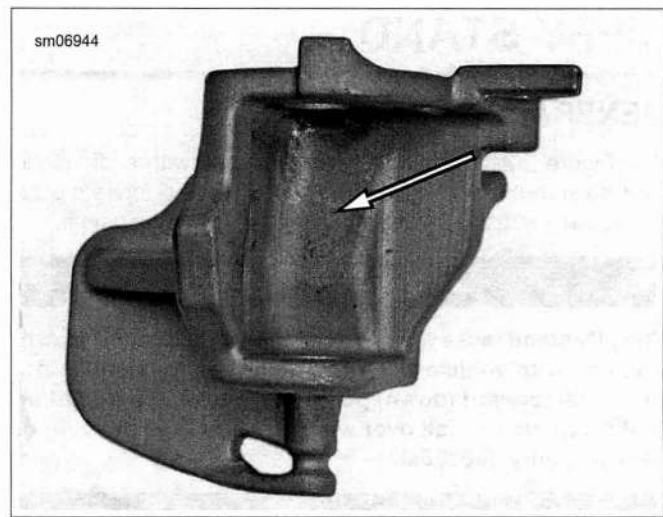

Figure 2-214. Jiffy Stand Yoke Ramp
- See Figure 2-214. Coat the ramp of the jiffy stand yoke with ANTI-SEIZE LUBRICANT (Part No. 98960-97).